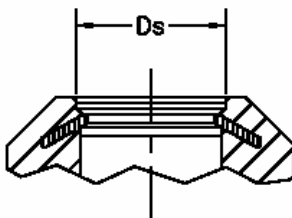

FIGURE 1
5. Refer to Figure 1 and measure the diameter of Ds with a precision caliper. This diameter must be in the range of values listed in Table 1. If this is not the case, replace the nozzle/seat subassembly.